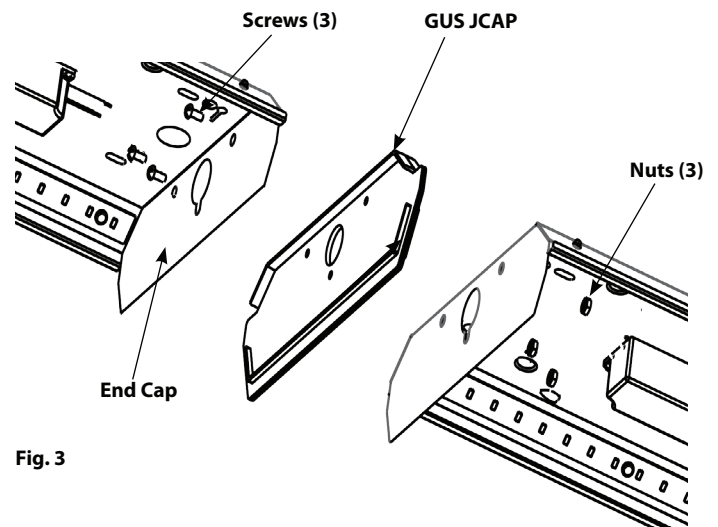

Fig. 3
(ordered separately) - Fig. 3
1. Remove **End Caps** (2) from both **Housings** and replace with **GUS JCAP**.
2. Secure **GUS JCAP** with **Screws** (3) and **Nuts** (3) provided as shown in Fig. 3 to join both Housings.